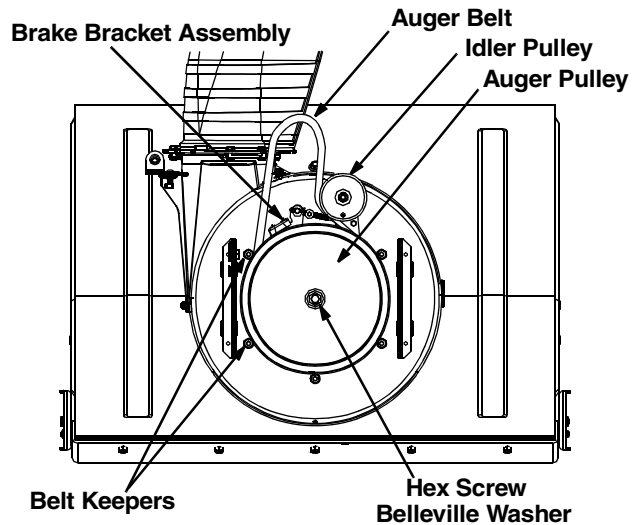

Figure 20
- Using a 1/2" wrench, remove the hex screw and belleville washer from the center of the pulley on the auger housing. Lift the brake bracket assembly out of the pulley groove and remove the pulley. See Figure 20. Be careful not to lose the key.